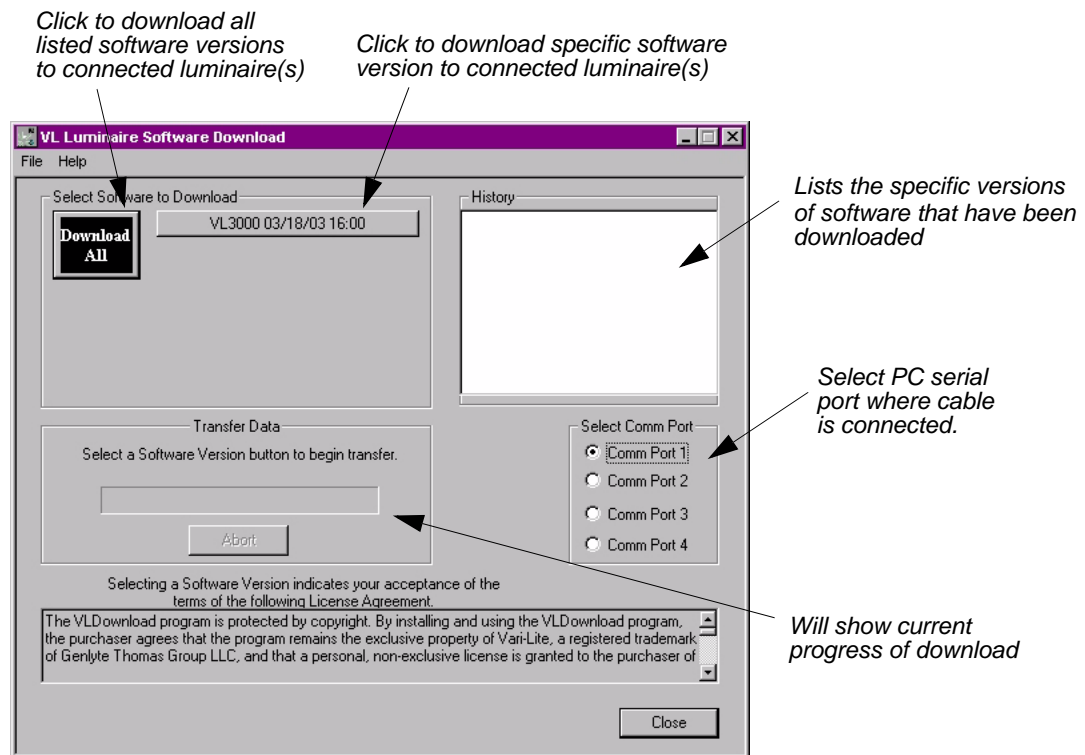

Figure 3-4: VL Download Program Window
- Step 6. At Select Comm Port section of window (refer to Figure 3-4 on next page), select serial Comm Port (Comm Port 1, Comm Port 2, Comm Port 3, or Comm Port 4) where *Serial Straight Thru Cable* is connected.